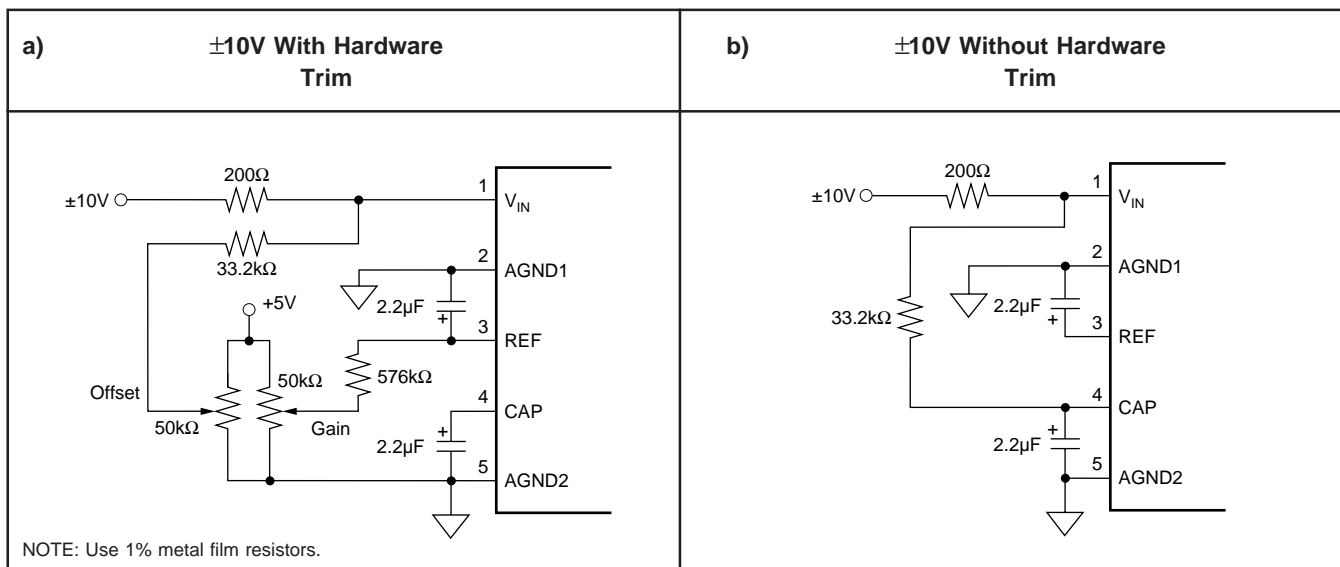

FIGURE 6. Circuit Diagram With and Without External Resistors.
The ADS7805 offers a standard  $\pm 10\text{V}$  input range. Figure 6 shows the necessary circuit connections for the ADS7805 with and without hardware trim. Offset and full-scale error(1) specifications are tested and specified with the fixed resistors shown in Figure 6b. Adjustments for offset and gain are described in the “Calibration” section of this data sheet.